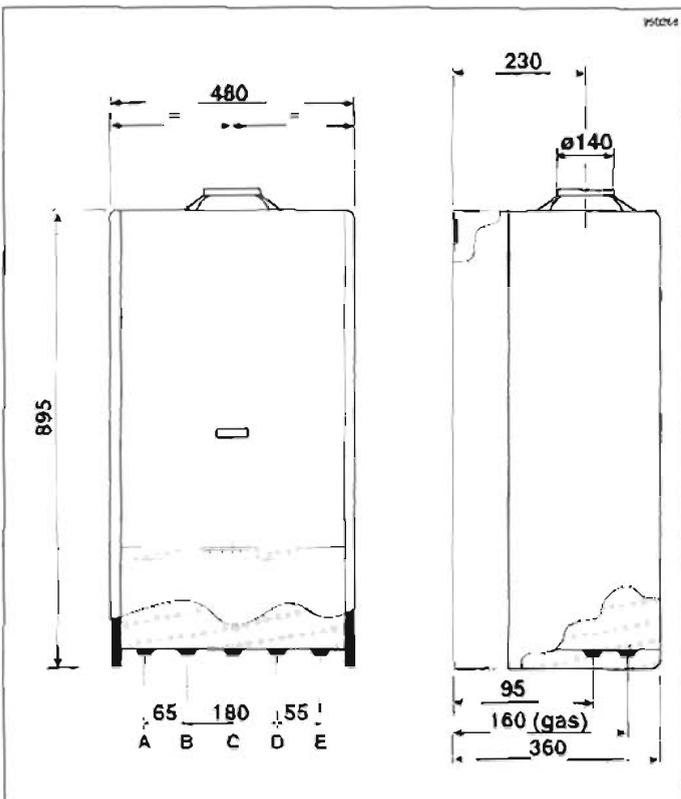

fig. 3.1
- 1- After the sitting position has been determined, (see fig. 3.1, 3.2) allowing for clearances as shown in section 3.1, fix paper template to the wall;